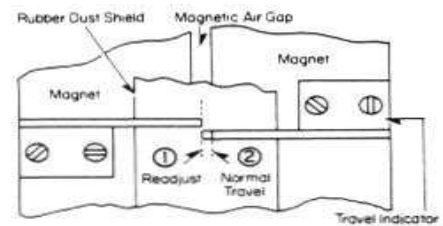

Figure 2: Magnet Travel Indicator
For optimum operation, brakes of any manufacture should be readjusted to normal magnet travel as often as a reasonable maintenance schedule will allow. Minimum travel will result in fastest, quietest operation with the least amount of shock and bearing wear. The TM brake will operate at a long travel, and if necessary, allows considerable lining wear between adjustments. In lieu of a maintenance schedule, travel indicator brackets (13) on top of the magnet may be used as a visual guide for maximum wear allowable between adjustments. When magnet gap opening progresses to the point where ends of indicator brackets line up, as in Figure 2, it is time to readjust for lining wear (see Adjustment, below).